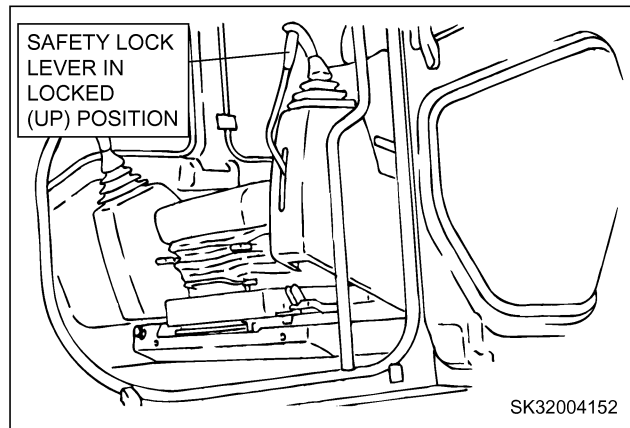

FIGURE 5.3C
- h. Place safety lock lever in the up “LOCKED” position. See Figure 5.3C.